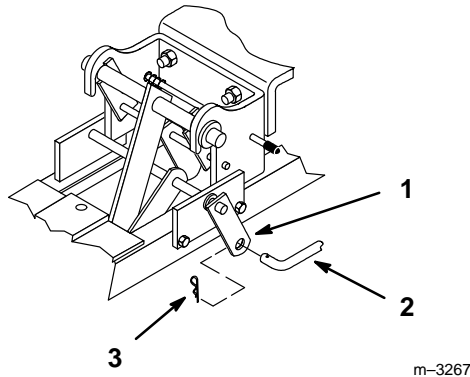

Figure 10
9. Place lift rod into lift arm and secure with large hairpin cotter (Fig. 10).